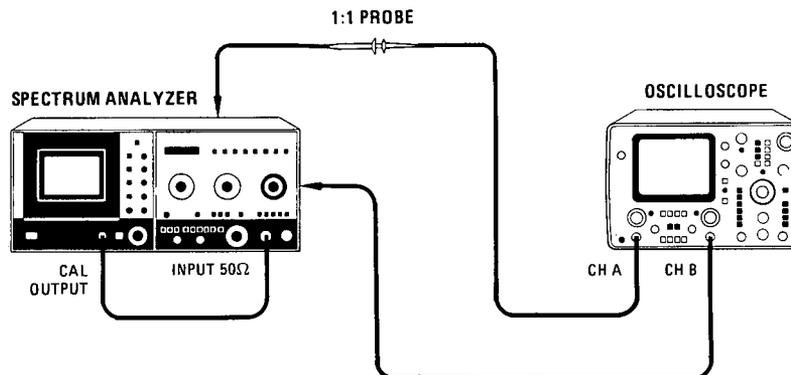

Figure 5-62. Option 100 Bandwidth Filter Adjustments Test Setup
- b. Reconnect power cord, set LINE switch ON, connect equipment as shown in Figure 5-62, and set 8565A controls as follows: